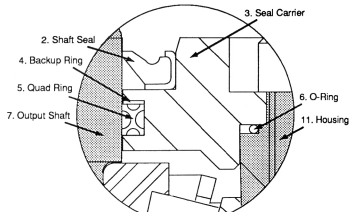

Fig. 10
23. Lubricate backup ring (4), quad ring (5) and 'O' ring (6). Insert backup ring (4) into groove of seal carrier. (Fig. 10) Place 'O' ring (6) on seal carrier pilot. (Fig. 8)
24. Press seal (2) into its counterbore in seal carrier. (Fig. 10) The open face of the seal should be up. This seal functions as a wiper only and is installed to keep contaminants out of the unit.